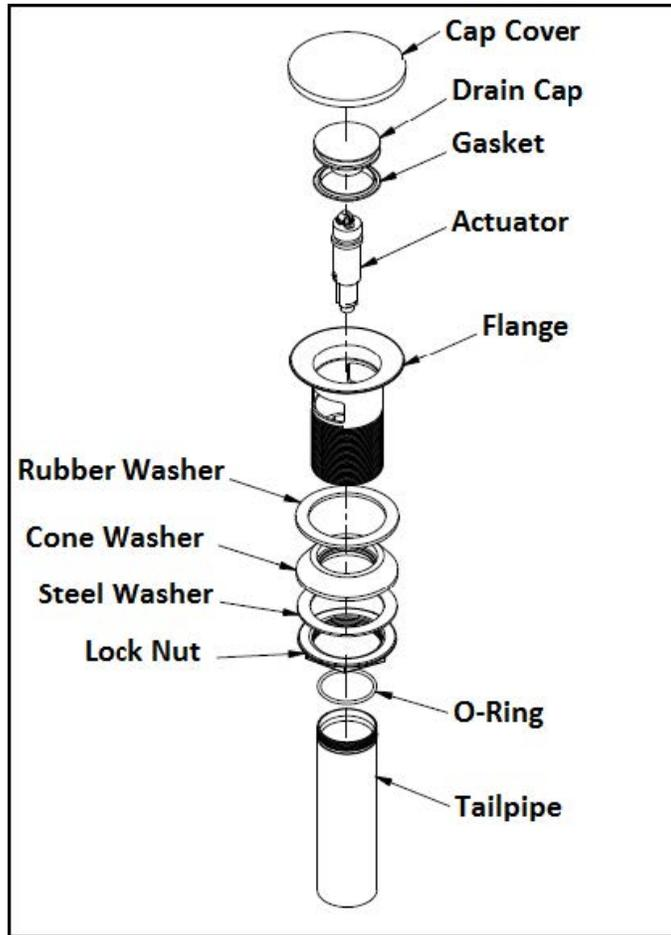

Figure 3
4. Remove **FLANGE, RUBBER WASHER, STEEL WASHER**, and discard **drain CAP COVER** from drain assembly. Place **RUBBER WASHER** into **FLANGE**. Then, place **FLANGE** through the sink hole (Clear silicone may be used in place of **RUBBER WASHER**). From underside of sink, install **CONE WASHER, STEEL WASHER**, and **LOCK NUT** into **FLANGE**. Thread **LOCK NUT** firmly. Thread **TAILPIPE** to **FLANGE** assembly and assemble **TAILPIPE** to existing P-Trap. See Figure 3.